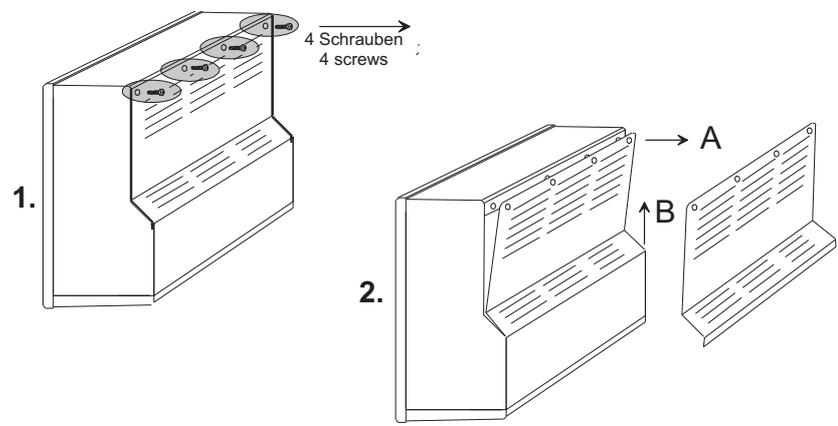

Fig. E 8-1: Remove rear cover
3. Open the backplane cover (four screws). Store screws and metal plate (Fig. E 8-1).